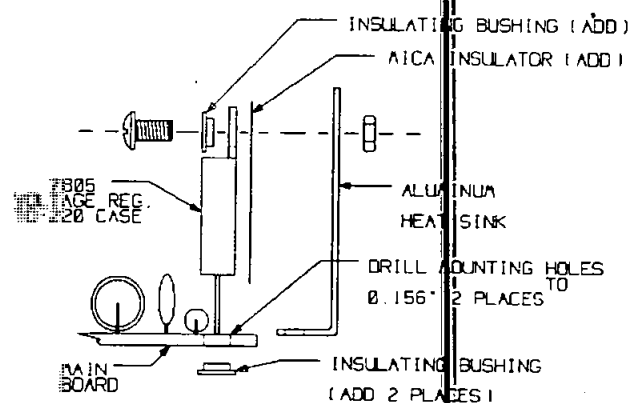

FIGURE 2
4. REMOVE THE SCREW WHICH ATTACHES THE VOLTAGE REGULATOR HEAT SINK TO THE VOLTAGE REGULATOR. (SEE FIGURE 2)
5. USING A 5/32" DRILL ENLARGE THE TWO MAIN BOARD ATTACHING SCREW HOLES (SEE FIGURE 2) MAKING SURE THAT THE DRILL REMOVES ALL OF THE CONDUCTIVE TRACE MATERIAL BETWEEN THE UPPER AND LOWER LAYER OF THE BOARD. IF ANY CONDUCTIVE MATERIAL REMAINS IN THE HOLE REMOVE ANY REMAINDER WITH A BEARING SCRAPER OR EXACTO KNIFE.
6. REASSEMBLE THE UNIT INSTALLING THE INSULATOR BUSHINGS AND MICA INSULATOR AS SHOWN IN FIGURE 2. A NON CONDUCTIVE GREASE OR ADHESIVE MAY BE USED TO HOLD THE INSULATOR BUSHINGS IN PLACE DURING ASSEMBLY.